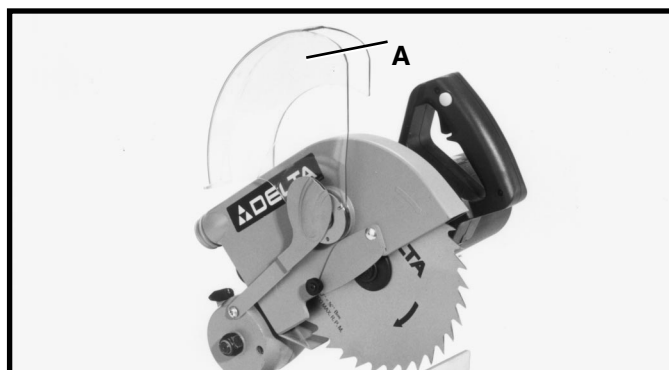

Fig. 40
2. Rotate lower blade guard (A) Fig. 40, to the top position as shown.
10. Place lower blade guard (A) Fig. 40, in the down position.